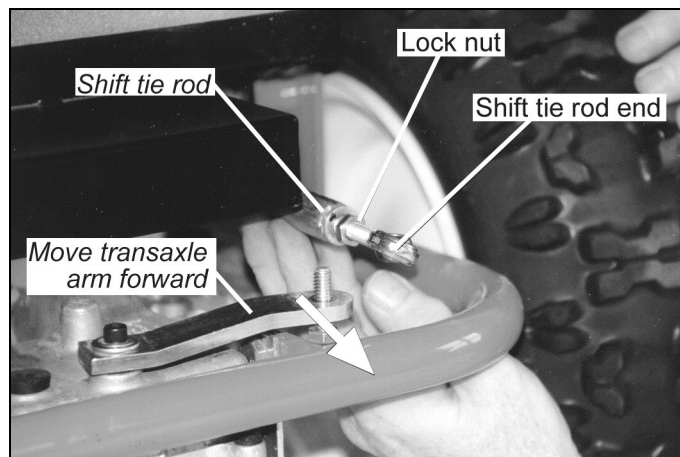

Figure 24
3. Pull the brake disc off the keyed shaft (*Figure 24*). Be careful not to lose the shaft key. Remove the old brake pad from behind the disc. Next, replace it with a new brake pad, then reinstall the brake disc.